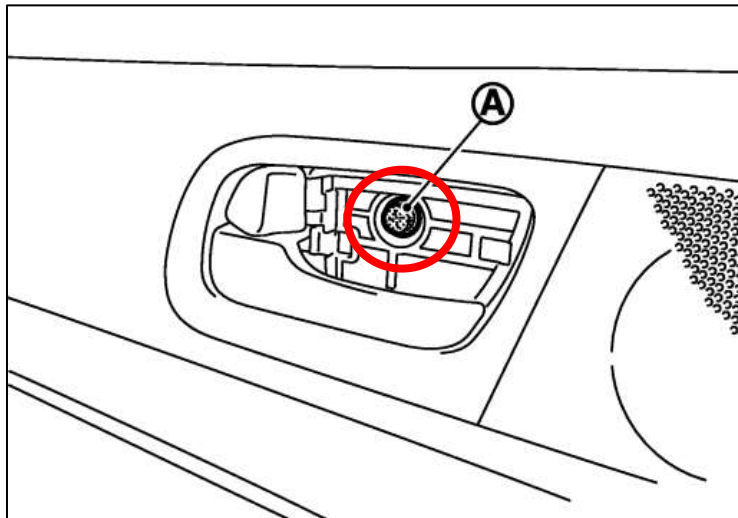

Figure 65
3. Remove the (1) one 10mm Bolt behind the Trim Piece that was just removed. *Figure 65.*